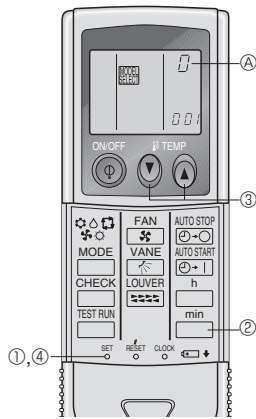

Fig. 6-9
3) IR wireless remote controller pair number setting operation (Fig. 6-9)
① Press the SET button with something sharp at the end.